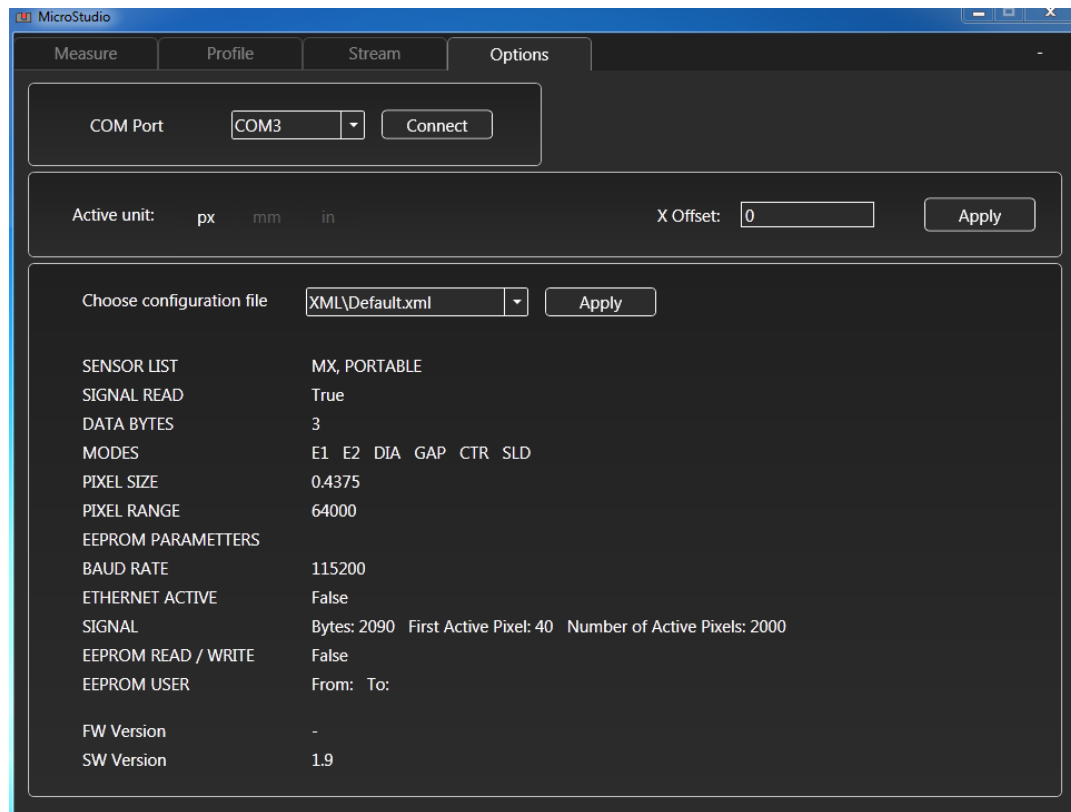

FIGURE 7: Screenshot of the MicroStudio Software
3. Open the folder and run the MicroStudio.exe application. See *Figure 7* below.